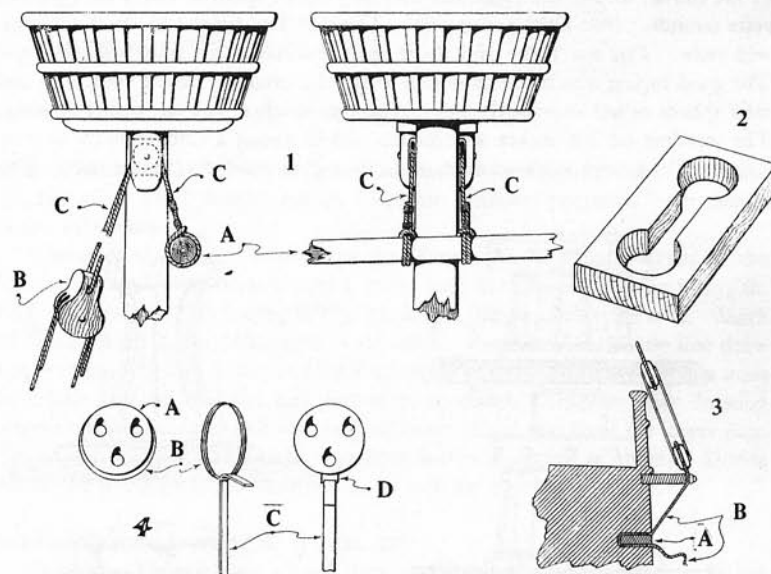

Fig. 33. Mast-tops and deadeyes
To make lower deadeyes and chain plates (see Fig. 33, sketch 4), take a round stick very slightly larger than the deadeye (A), soft wire (C) flattened with a
Fig. 33/1 shows the method of hoisting the main yard in a ship of the fifteenth and sixteenth centuries. A is the yard; B a ram headed block which may be two-fold or three-fold; C is the tie, both ends being made fast to the yard. The ties run over the sheaves which are pivoted in cheeks on either side of the mast. Note the use of the seldom used cow hitch for securing the tie to the yard.